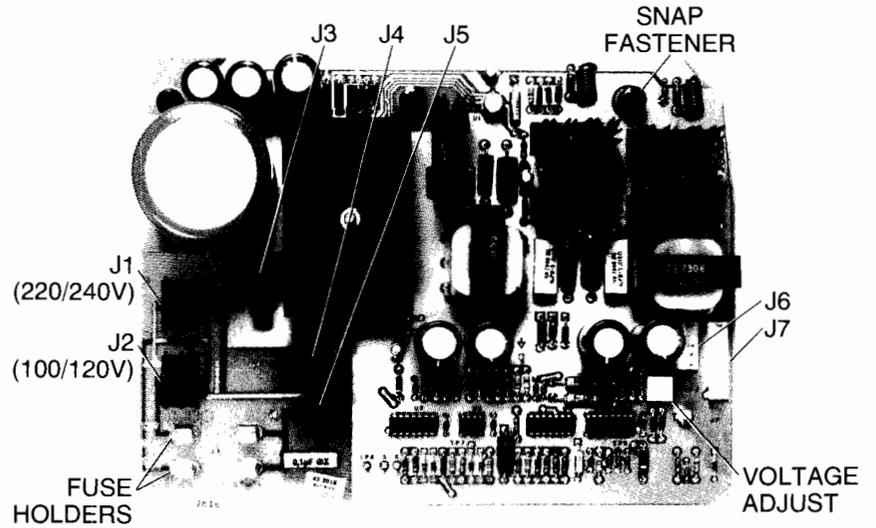

Figure 2-5. Standard 65 Watt Power Supply PCA
3. Check that the fuse is inserted in the set of fuse holders which comes closest to matching the power source (figures 2-5 and 2-6). Also check that the amperage rating of the fuse is as indicated on the Power Supply PCA.